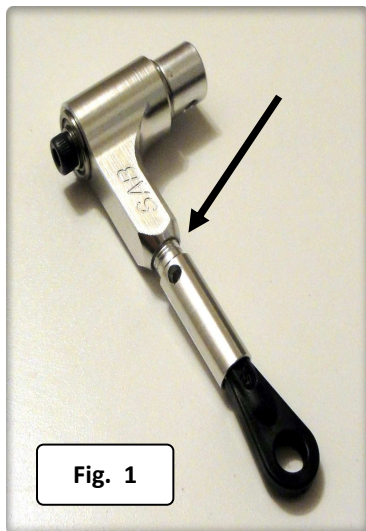

Fig. 1
•Check the head control linkages at the thread between the two aluminum parts (figure 1). The play present in this coupling is desired. Check each flight that the play remains constant.